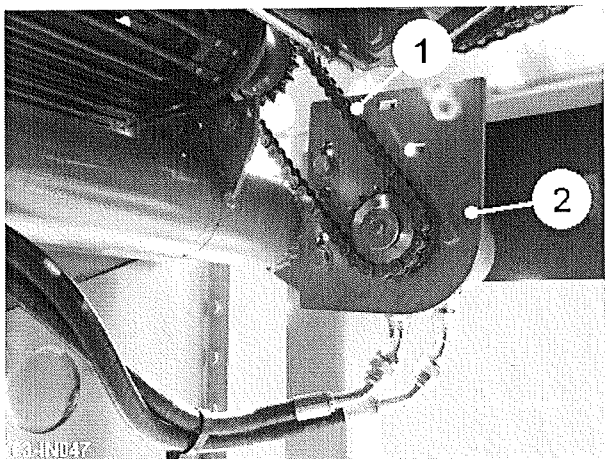
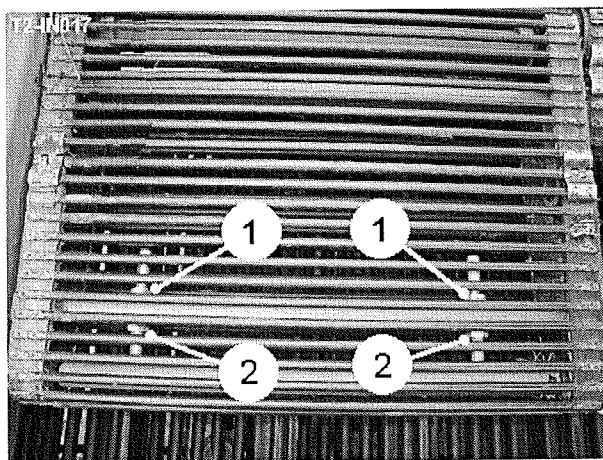

Fig 17
Fig 18
The spreader drive chain (item 1, fig 17) is tensioned by adjusting the motor plate (item 2, figure 17) in the mounting slots. The spreader webs are tensioned using the locknuts (item 1 & 2, fig 18). Ensure both sides of the web are adjusted evenly.